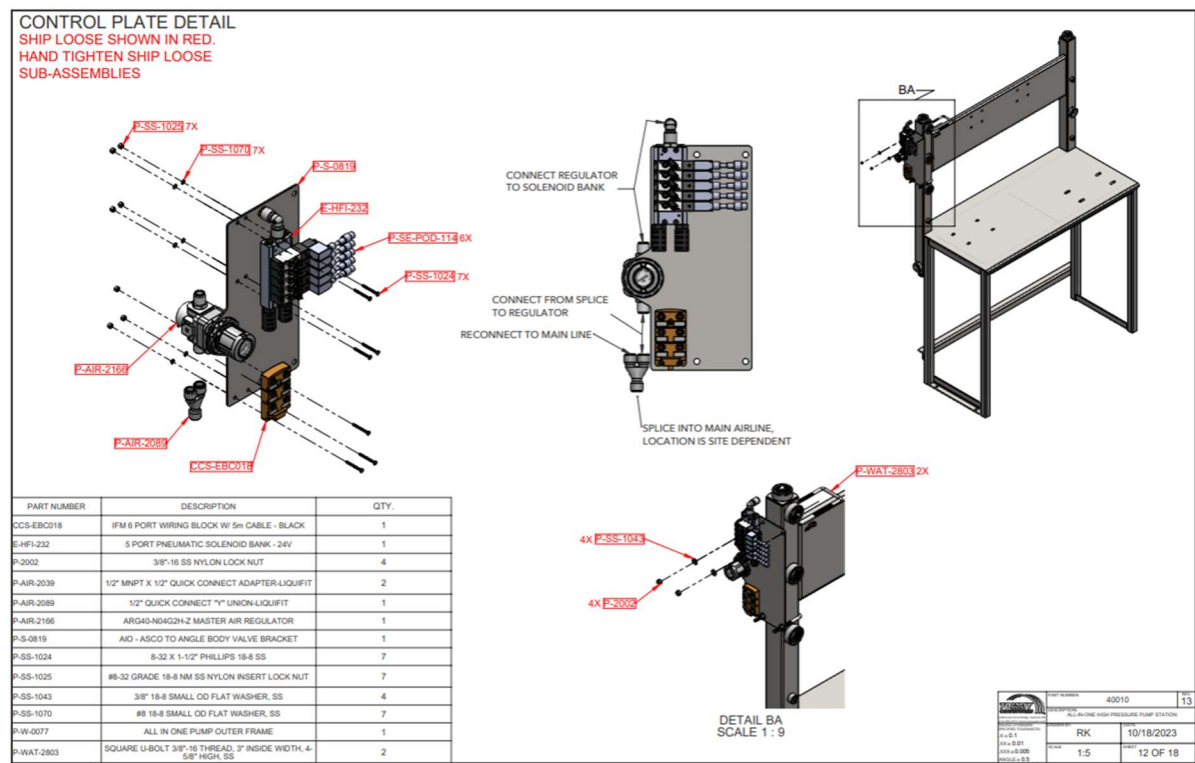

Figure 7. Control Plate Install Instructions, larger image in appendix
Step 5: Install the control plate on the reclaim pillar as shown in Figure 7 below.